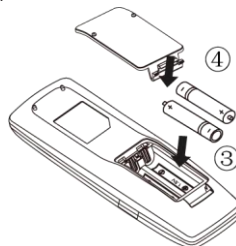

Fig.6
- (3). Place two 7# (AAA 1.5V) dry batteries, and make sure the position of “+” polar and “-” polar is correct (as shown in Fig 6③).
- (4). Reinstall the cover (as shown in Fig 6④).